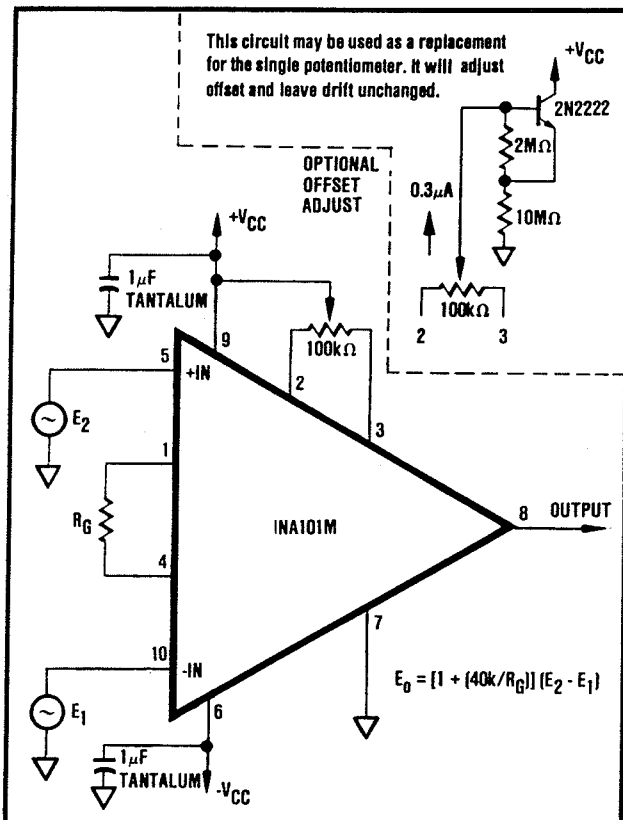
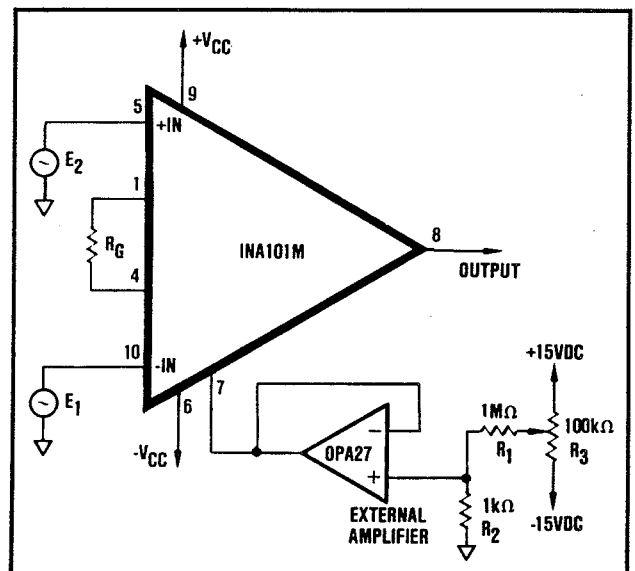

FIGURE 2. Basic Circuit Connection for the INA101 Including Optional Input Offset Null Potentiometer.
FIGURE 3. Optional Output Offset Nulling or Offsetting Using External Amplifier (Low Impedance to Pin 7).
At +25°C and in circuit of Figure 2 unless otherwise noted.
Figure 2 shows the simplest configuration of the INA101. The gain is set by the external resistor, R_G with a gain equation of $G = 1 + (40k/R_G)$. The reference and TCR of R_G contribute directly to the gain accuracy and drift.
The optional offset null capability is shown in Figure 2. The adjustment affects only the input stage component of the offset voltage. Thus, the null condition will be disturbed when the gain is changed. Also, the input drift will be affected by approximately 0.31μV/°C per 100μV of input offset voltage that is trimmed. Therefore, care should be taken when considering use of the control for removal of other sources of offset. Output offsetting can be accomplished in Figure 3 by applying a voltage to Common (pin 7) through a buffer amplifier. This limits the resistance in series with pin 7 to minimize CMR error. Resistance above 0.1Ω will cause the common-mode rejection to fall below 106dB. Be certain to keep this resistance low.
The basic circuit connection for the INA101 is shown in Figure 2. The output voltage is a function of the differential input voltage times the gain.
It is frequently desirable to null the input component of offset (Figure 2) and occasionally that of the output (Figure 3). The quality of the potentiometer will affect the results, therefore, choose one with good temperature and mechanical-resistance stability. The procedure is as follows:
3. Adjust to $100k\Omega$ potentiometer in Figure 2 until the output reads $0V \pm 1mV$ or desired setting. Note that the offset will change when the gain is changed. If the output component of offset is to be removed or if it is desired to establish an intentional offset, adjust the $100k\Omega$ potentiometer in Figure 3 until the output reads $0V \pm 1mV$ or desired setting. Note that the offset will not change with gain, but be sure to use a stable external amplifier with good DC characteristics. The range of adjustment is $\pm 15mV$ as shown. For larger ranges change the ratio of R_1 to R_2 .